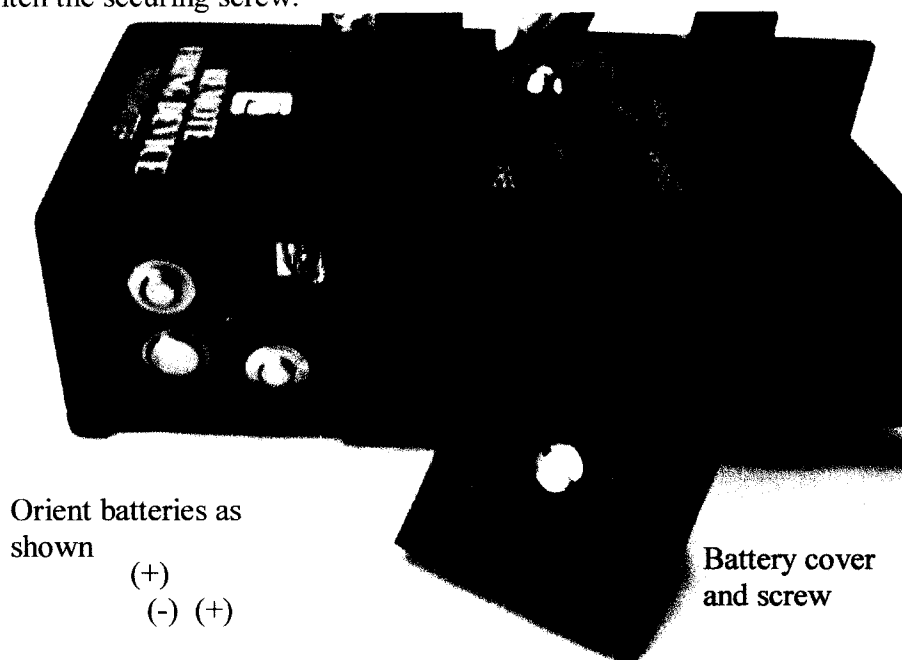

Figure 9. Battery orientation.
- b. Remove the cover and replace the old batteries with new ones. Check battery orientation (see figures 9 and 10) before insertion. The battery compartment is keyed so inserting the batteries improperly will not damage the unit.